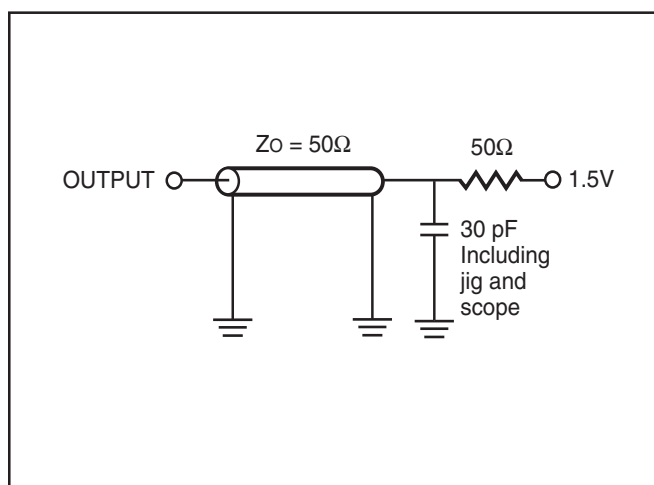

Figure 1
Output Load	See Figures 1 and 2
1. Test conditions assume signal transition times of 3 ns or less, timing reference levels of 1.5V, input pulse levels of 0V to 3.0V and output loading specified in Figure 1.